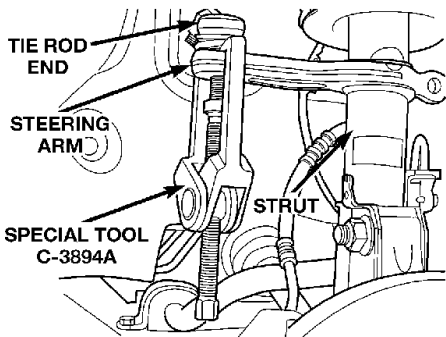

Fig. 4 Outer tie rod end removal
- e. Release outer tie rod end from steering arm using a suitable puller, then remove nut and tie rod from steering arm, **Fig. 4**.